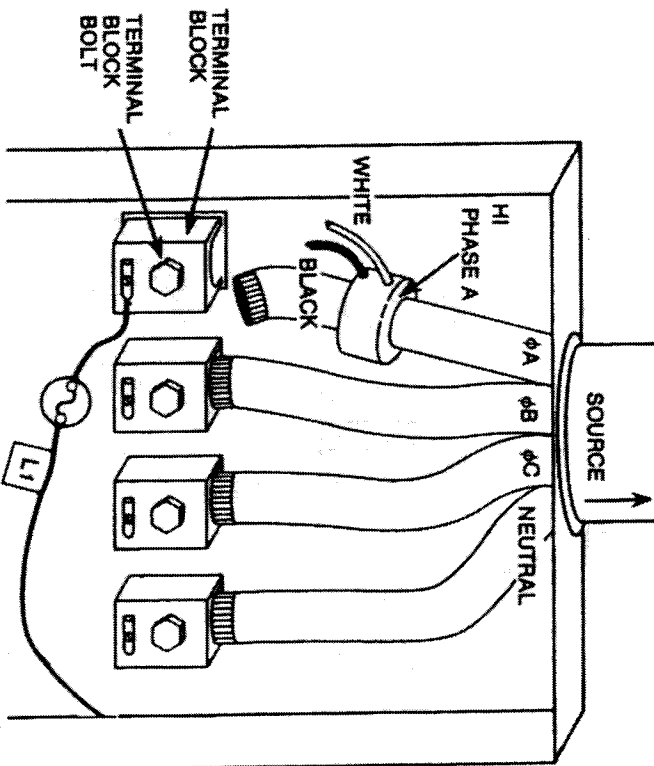

Figure 4 "HI" MUST FACE SOURCE, VOLTAGE LEAD CONNECTION.
3. Slip current transformer, labeled "PHASE A", on line with marking "HI" and phase A label faced toward the source. (see Figure 4.)